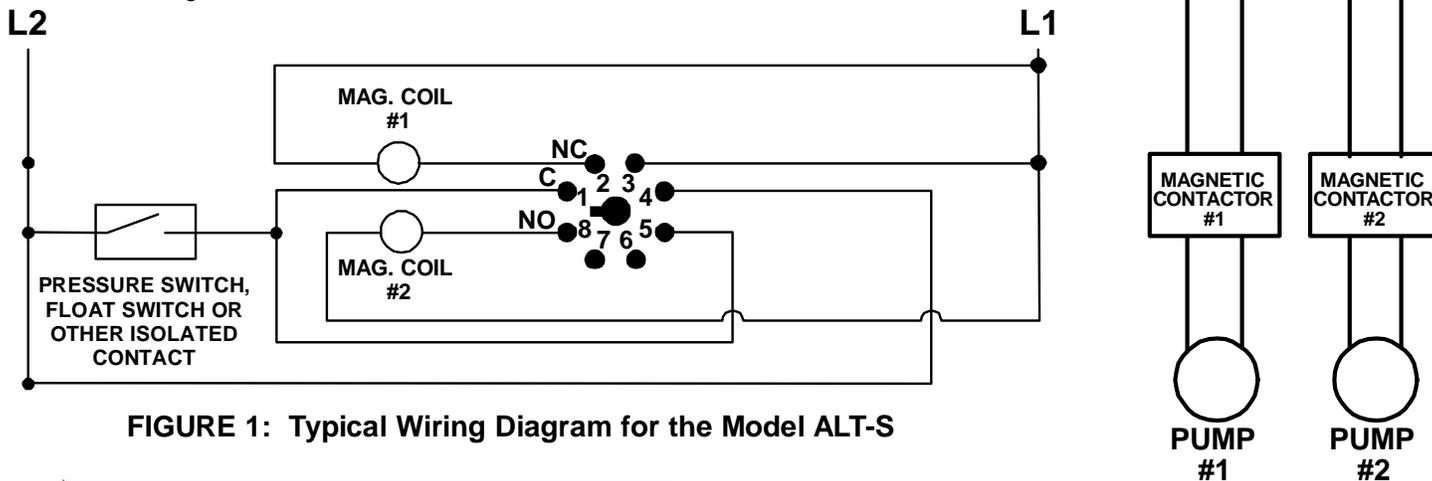

FIGURE 1: Typical Wiring Diagram for the Model ALT-S
2. Connect one of the pump's magnetic contactor coils (#1) between socket terminal 2 and L1 of the power supply (see Figure 1).